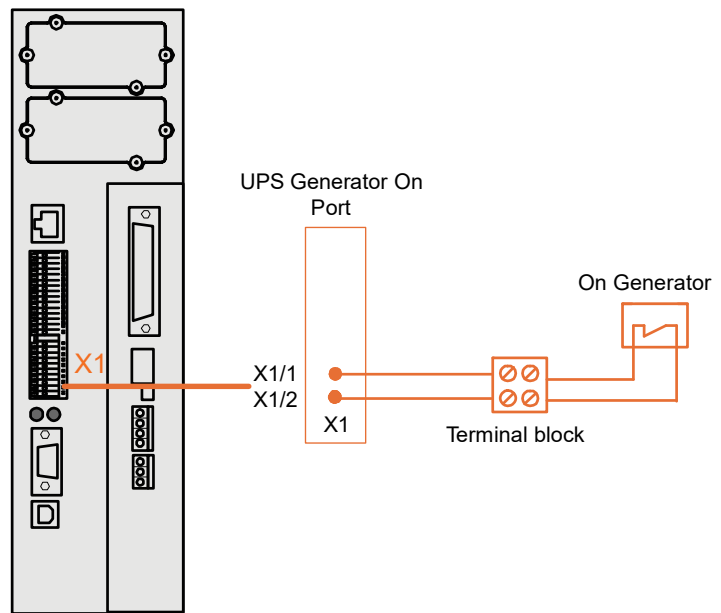

Figure 7.2 Generator ON connection
2. Connect the cable as shown in Figure 7.2.